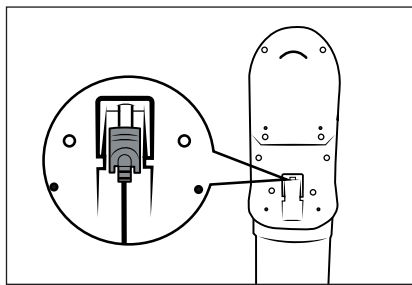

Fig. 8
- ▶ The vacuum cleaner can also be charged directly via the mains adapter **10**. To do this, remove the barrel plug **11** from the wall bracket **18** by turning it slightly and insert it into the charging socket **3** on the underside of the appliance (see Fig. 8).